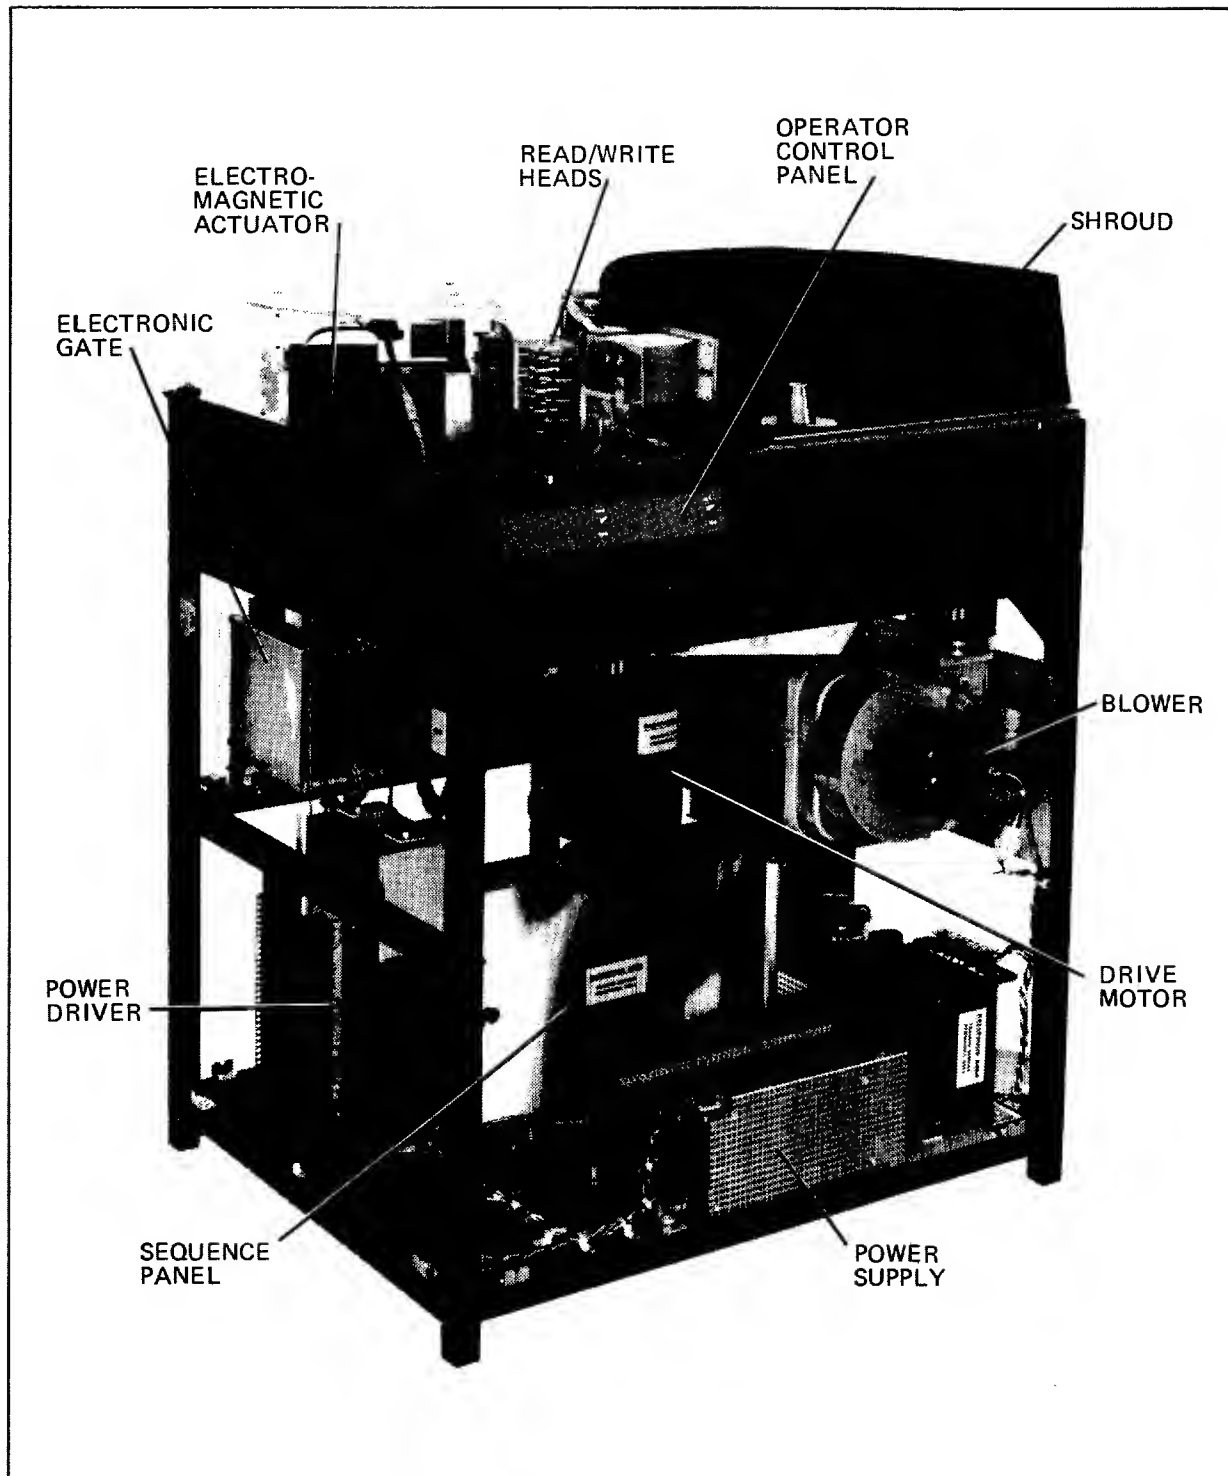

Figure 3-17. HP 2888A Front View, Covers Removed
7. Check the pivot action of the index transducer by pressing the white index transducer pushrod on top of the air deflector and verify that the transducer pivots out of the shroud area. See figures 3-17 and 3-18.